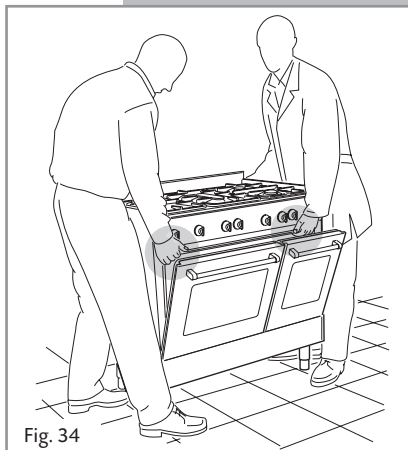

Fig. 34
**When raising cooker to upright position always ensure two people carry out this manoeuvre to prevent damage to the adjustable feet (fig. 34).**
To move the cooker always ensure two people carry out this manoeuvre to prevent damage to the appliance (fig. 34).
Lift feet clear of floor (fig. 34).